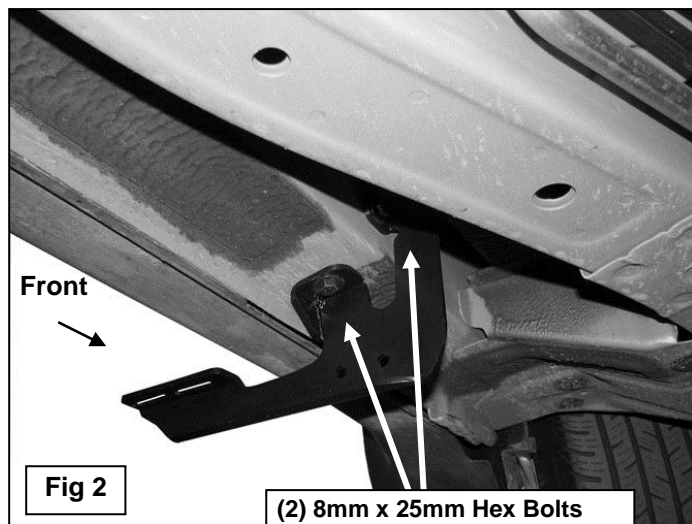

Fig 2
2. Select the driver side Front Mounting Bracket. Attach the Bracket to the two threaded holes using the provided (2) 8mm x 25mm Hex Bolts, (2) 8mm Lock Washers and (2) 8mm Flat Washers. Snug but do not tighten hardware at this time, (**Figure 2**).